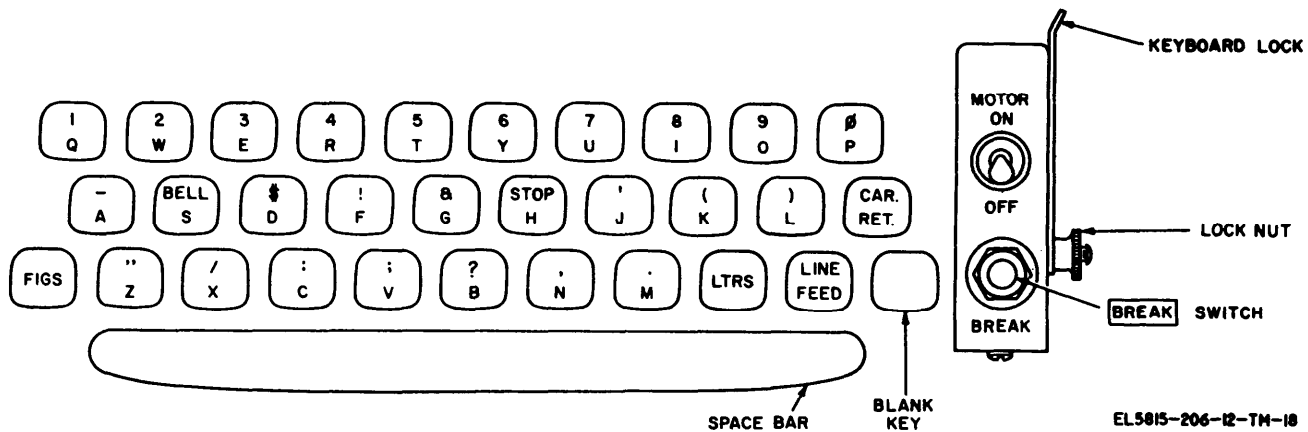

Figure 2-5. Teletypewriter TT-4(*)/TG or TT-698(*)/TG
f. *Keyboard Lock*. If messages are to be transmitted from the teletypewriter, loosen the locknut (fig. 2-5), slide the keyboard lock toward the front of the teletypewriter, and tighten the locknut.